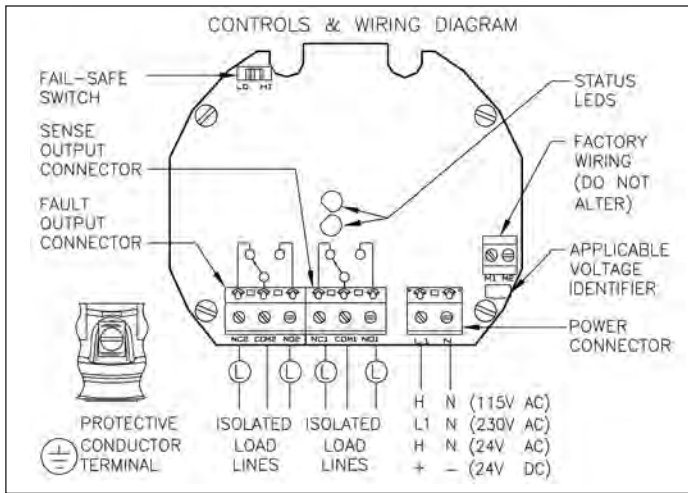

Figure 6
- 6) **Power Input** - Verify the intended voltage supply is compatible with the voltage configuration indicated on the electronics and the external nameplate. Connect power as shown in Figure 6. The 24 VAC/DC model must be supplied by a SELV source. Observe polarity when using a VDC source.
Status LEDs (See Figure 6)